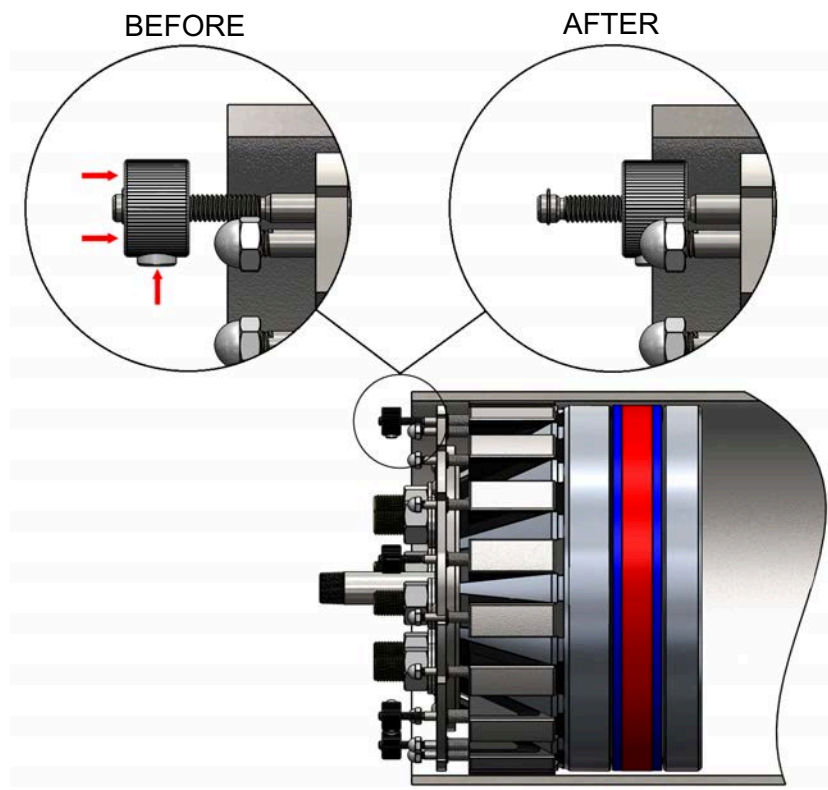

Figure 18: Repositioning Speed Nut
- 10.3 Before loosening the **Compression Hex Nuts(19)**, all **Speed Nut(1)** must first be positioned all the way to the end of the stud's thread as shown in Figure 18 – AFTER.
- 10.4 Turn the **Speed Nut(1)** clockwise until it reaches the end of the thread, away from the retainer ring. For faster repositioning, press the button of the **Speed Nut(1)** and slide it toward the end of the thread, away from the retainer ring, see Figure 18 – BEFORE. Once it is at the end of the thread, make sure that threads are interlocked by turning the **Speed Nut(1)** clockwise until it is finger tight.
- All **Speed Nut(1)** must be in the “AFTER” position shown in Figure 18 before loosening the **Compression Hex Nuts(19)**.